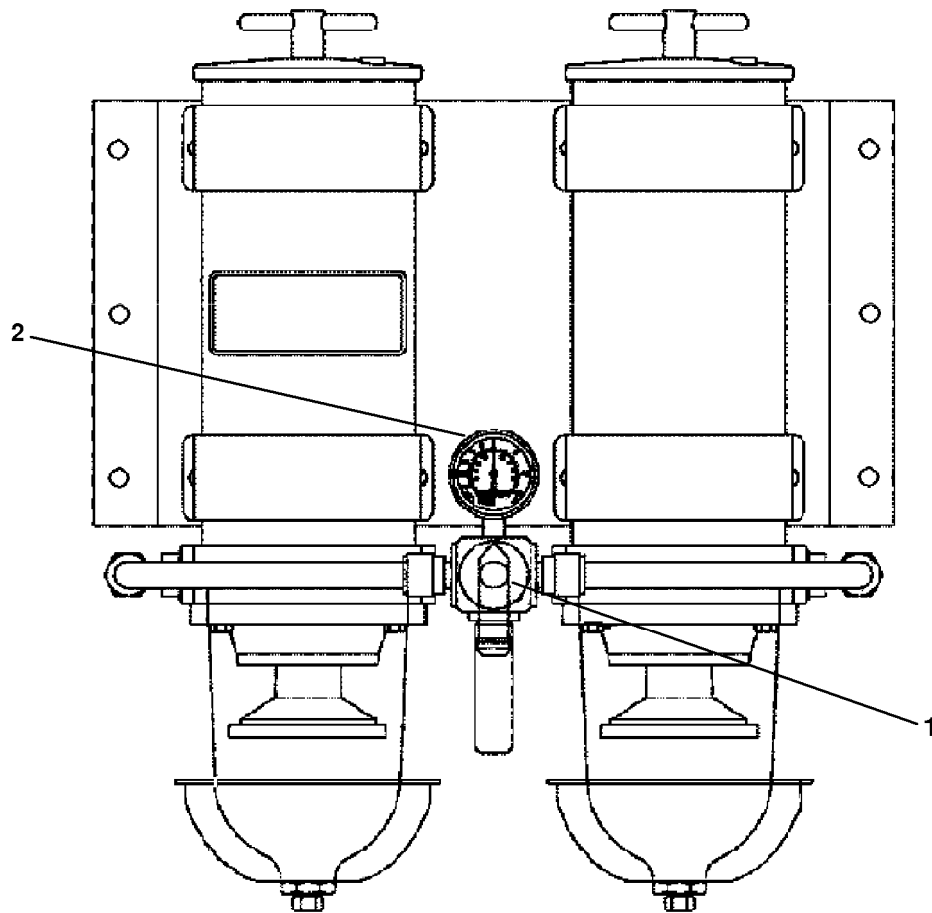

FIGURE 2-18A. Fuel Filter/Water Separator Assembly.
2-21.1. Repair Fuel Filter/Water Separator Assembly. (FIGURE 2-18A)
- a. Position three way valve assembly (1, FIGURE 2-18A) to the OFF position.
Repair is by replacement of the pressure-vacuum gauge assembly (2, FIGURE 2-18A).
- a. Replace pressure-vacuum gauge assembly (2, FIGURE 2-18A) on valve assembly (1).
- b. Rotate three way valve assembly (1) to desired position.